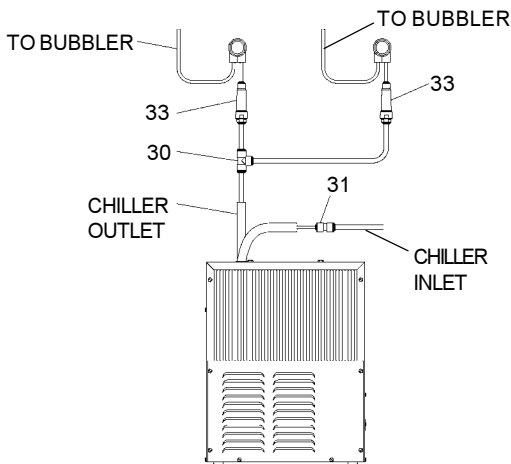

FIG. 5
3. **ERHPA MODELS:** Make connection between remote chiller and building supply line. Inlet port is marked on the chiller (1/4" O.D. copper tube). Bend the copper tube (provided) at an appropriate length from chiller to opening in frame. Install a 1/4" x 3/8" union (provided) on the marked chiller inlet port. Connect building supply line to union. (See Figure 5)
5. **Install** the fountain. Mount the fountain to the upper panel and the wall frame with (4) 1/4" x 3/4" (19mm) long bolts and nuts (provided). Tighten securely.
7. **ERPA MODELS:** Make connections between remote chiller outlet tube and fountain strainer. Outlet port is marked on the chiller (3/8" O.D. copper tube). Install a 3/8" tee (provided) on the marked chiller outlet port. Insert the 3/8" unplated copper water lines (provided) into the tee and the inlet sides of the strainers by pushing it in until it reaches a positive stop, approximately 3/4" (19mm). Connect 1/4" copper tubing coming from fountain to the strainer. Turn on water supply and check for leaks. **DO NOT SOLDER TUBES INSERTED INTO THE STRAINER AS DAMAGE TO THE O-RINGS MAY RESULT.** (See Figure 5).